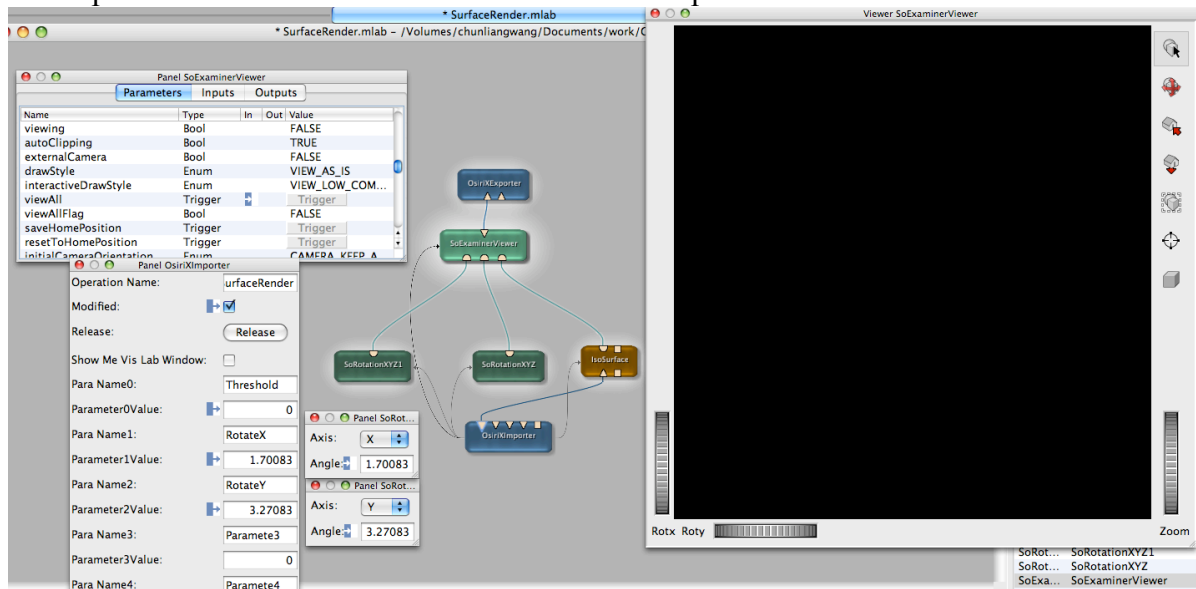

Figure 9. Network in MeVisLab
- Create processing network in MeVisLab as shown in figure 9.